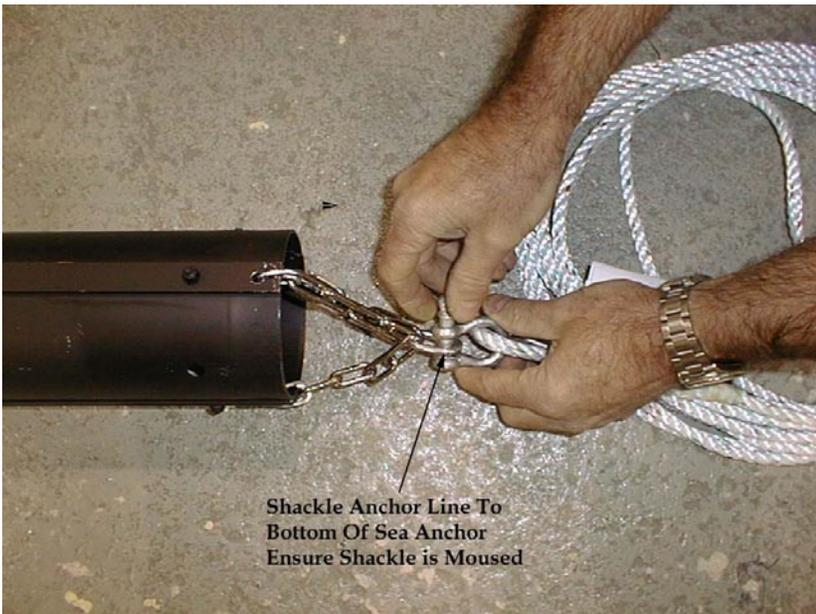

Figure 21
B. Install the shackle provided between the sea anchor bottom and the anchor line. Mouse the shackle. (Fig. 21)